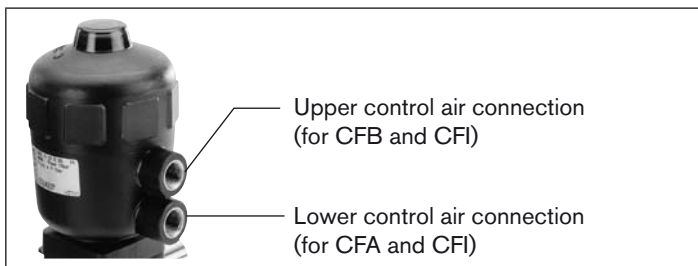

Fig. 8: Control air connection
- Pressurize upper control air connection with compressed air (value as indicated on the rating plate) (see "Fig. 8: Control air connection").